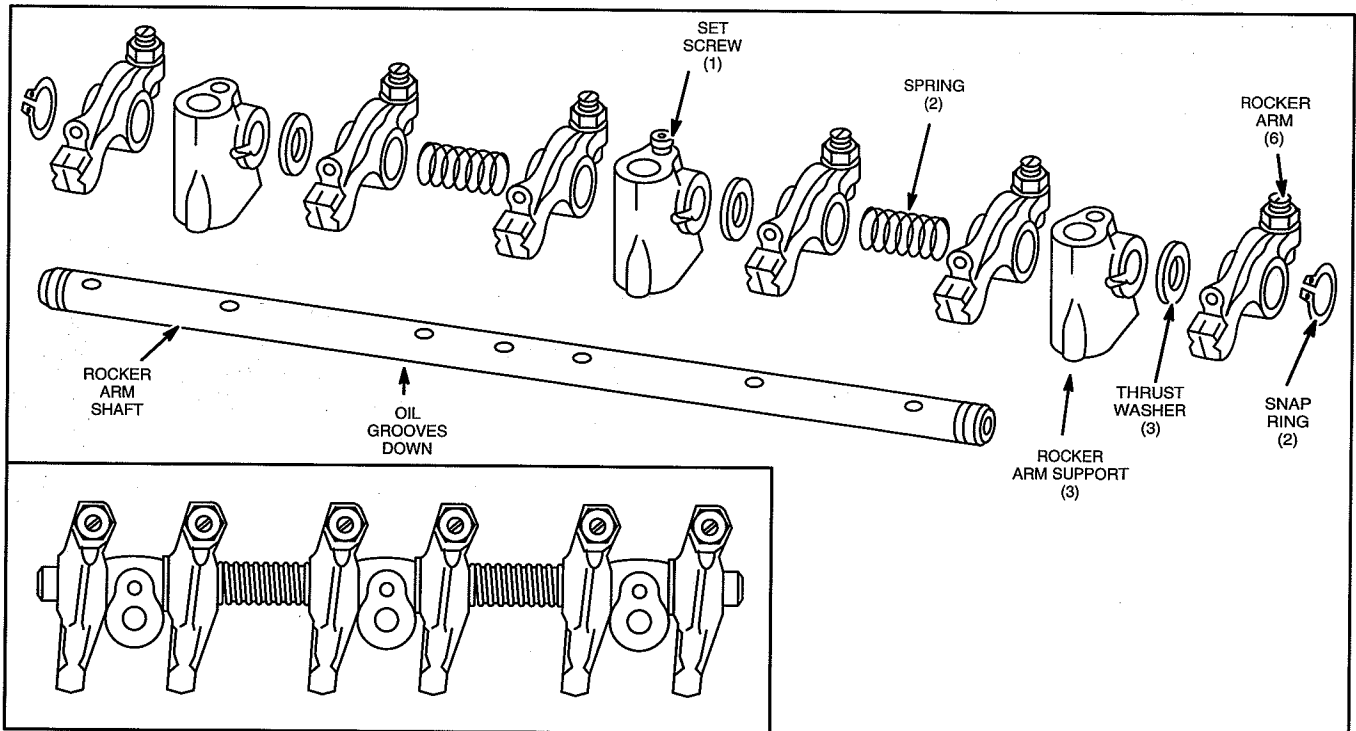

Fig. 24 – Rocker Arm Components
1. Oil all components before assembling. Small grooves in rocker shaft next to oil holes must face down. Assemble rocker arm components, noting order of assembly as shown in Fig. 24. Note position of three thrust washers. Install set screw in center rocker arm shaft support.